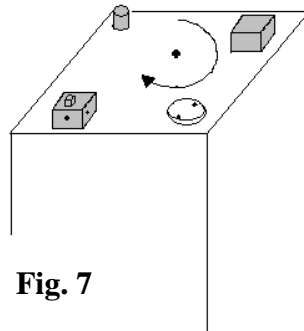
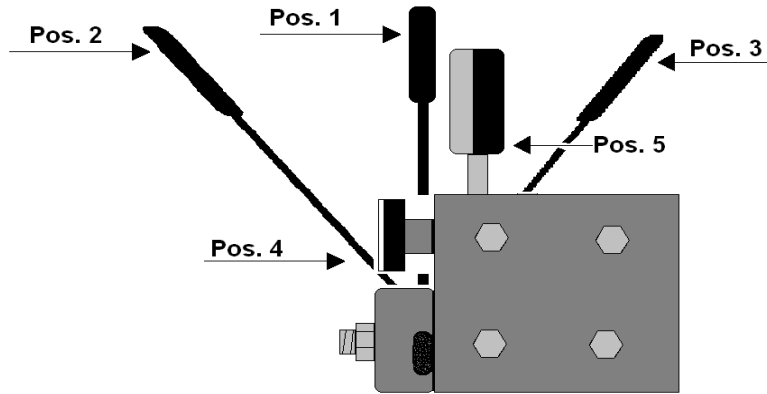

Fig. 7
Fig. 8
4. Check that the rotation of the shaft coincides with that of the arrow shown on the top of the unit see Fig 7.
To operate the cylinder, activate the master switch, and then operate the distributor lever Fig. 8.
With the hand wheel positioned on the side of the distributors (Fig. 8 Pos. 4) it is possible to adjust the operating pressure continually and therefore the pressing force of the cylinder. The pressure gauge (Fig. 7 Pos. 5) allows displaying the pressure during the working phases. Adjustment of the maximum pressure must be made starting from the lower value and gradually increasing to reach the pressure necessary to perform the operation to be carried out.